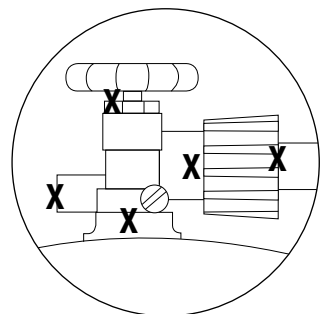

Figure 3
- Make sure control knob is in the "OFF" position (Figure 3).
- Control knob must be in the "OFF" position (Figure 3).